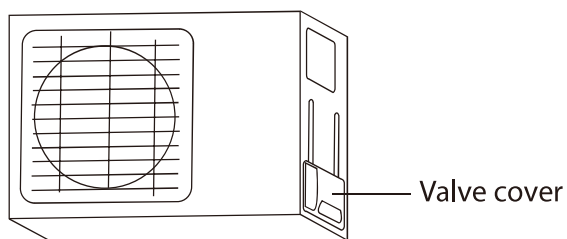

Fig. 5.9
1. Unscrew the cover from the packed valve on the side of the outdoor unit. (See Fig. 5.9)